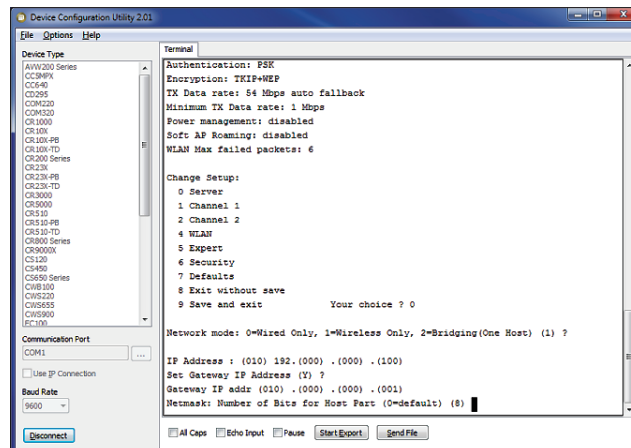

Figure 6. A netmask for eight bits is entered above.
- Netmask: Set the Netmask number of bits for host part and then press “Enter” (see Figure 6). The Netmask must match the WLAN router settings.